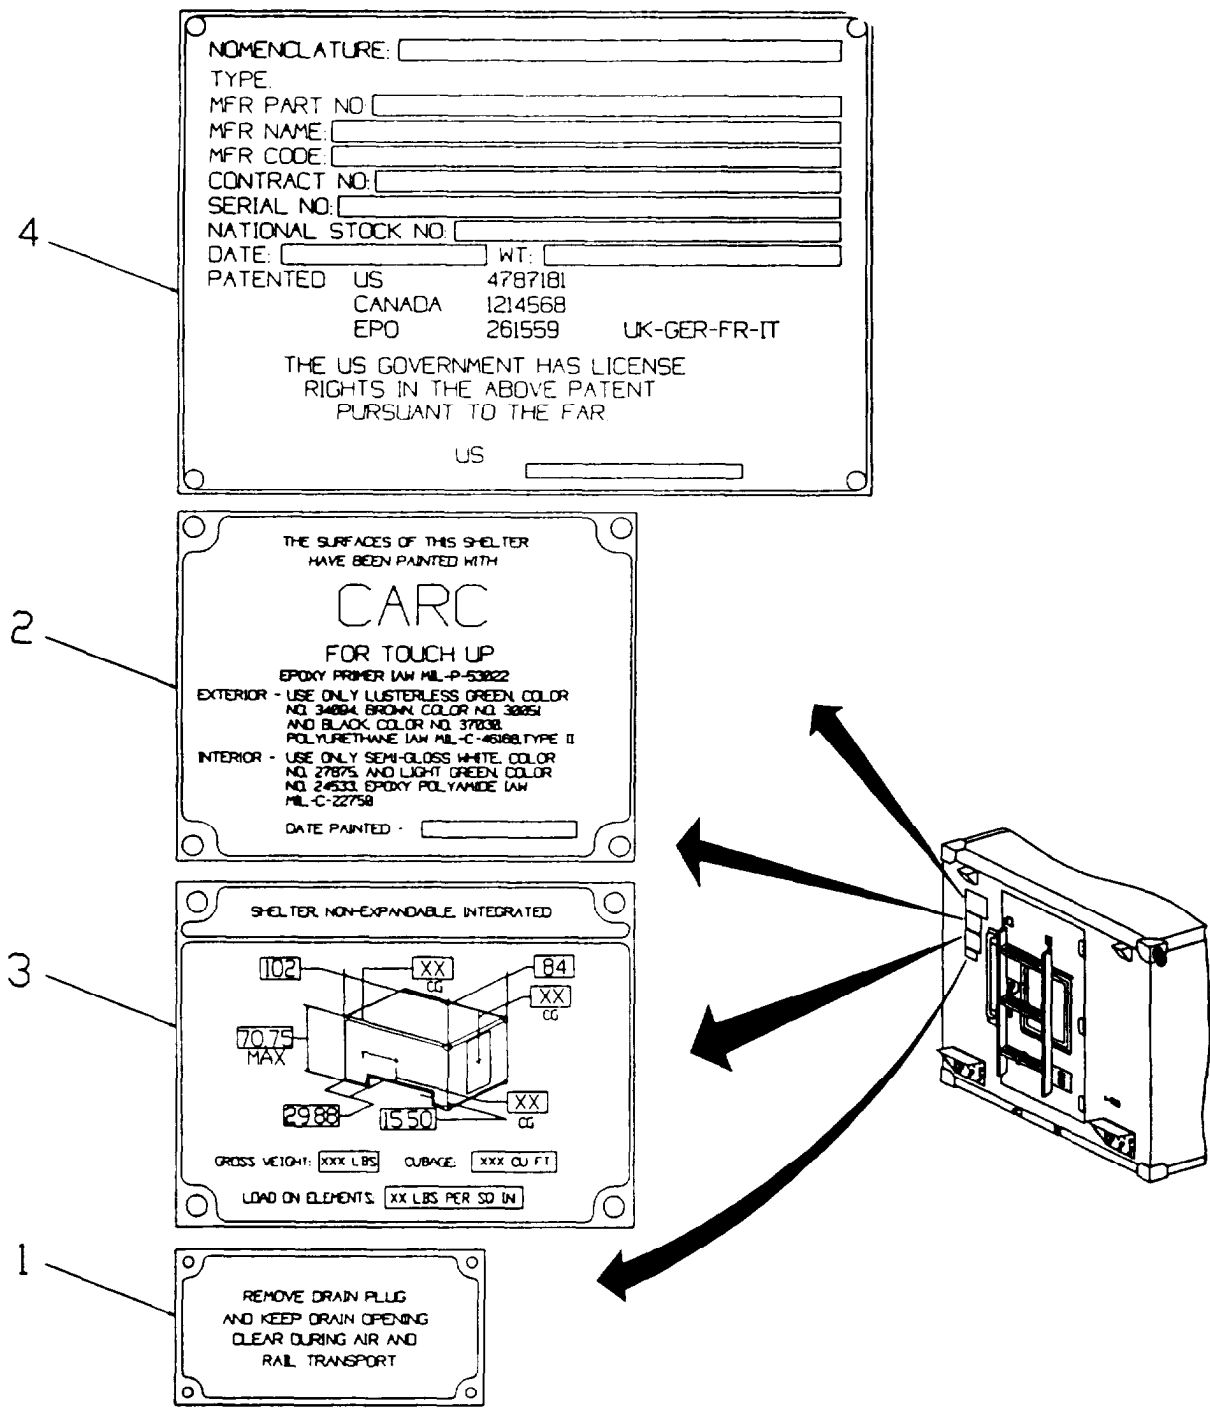

Figure 2-3. Data Plate Location
**2-16. DECALS AND INSTRUCTION PLATES.** The decals and instruction plates are located on the shelter as shown in figure 2-3.